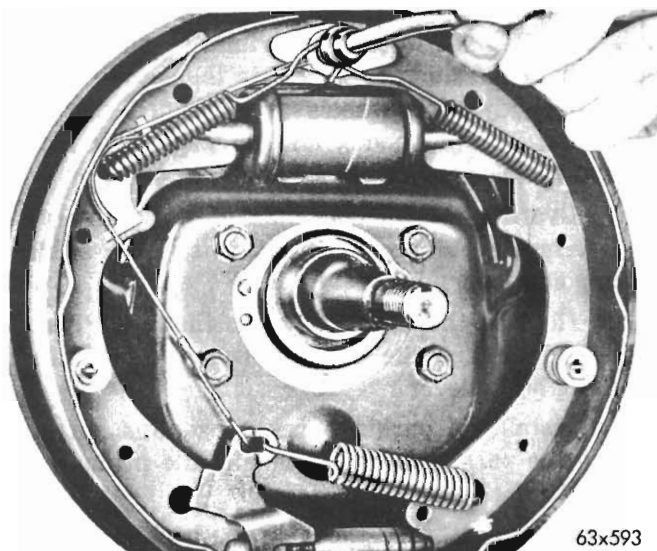
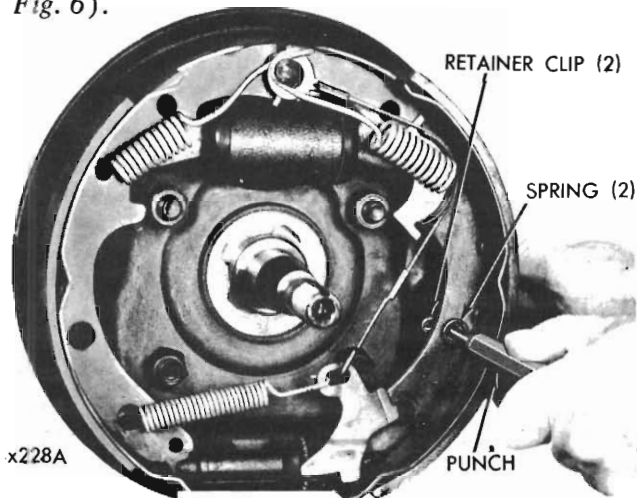

Fig. 3 - Removing shoe return spring using Tool E5C20 (typical view of right front brake).
Fig. 4 - Removing or installing shoe retainer spring using Tool No. E5C20A (typical view of L.H. side).
(1) Using Tool E5C20 remove the brake shoe return springs as shown in Fig. 3.
(2) Insert a small punch or tool E5C20A into the centre of the brake shoe to backing plate retainer spring, and while holding the backing plate retainer clip, press in and disconnect the spring (Fig. 4).
(3) Remove the primary and secondary shoe assembly from the backing plate.
(4) Over-lap the anchor ends of the primary and secondary brake shoes and remove the adjusting screw and spring.
(1) Raise the vehicle on a hoist or support on suitable stands. Disconnect parking equalizer, remove rear wheels and brake drums.
(2) Using Tool E5C20 remove the brake shoe return springs (*Fig. 3*). Insert a small punch in to the centre of the brake shoe to backing plate retainer clip, press in and disconnect the spring (*Fig. 4*).
(3) Tilt the brake shoe assembly out from the backing plate.
(4) Spread the anchor ends of the primary and secondary shoes and remove the parking brake strut and spring.
(5) Disengage the parking brake cable from the parking brake lever and remove the brake assembly.
(6) Over-lap the anchor ends of the primary and secondary shoes and remove the adjusting screw and spring.